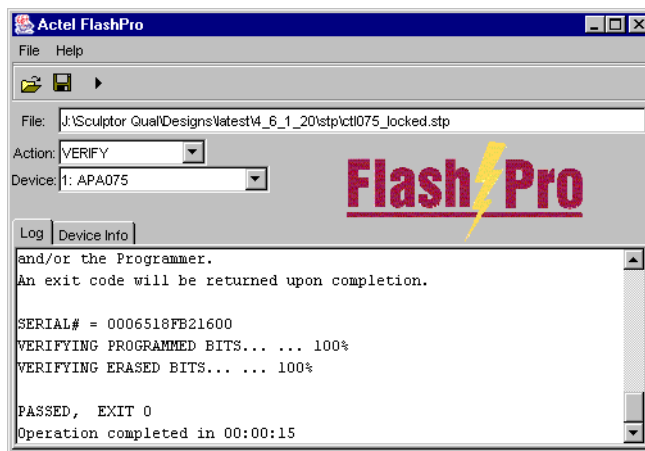

Figure 3-9. Successful Verification
4. Click *Execute* to start the verification process. A successful verification will result in Exit 0, as shown in Figure 3-9. If the STPL file is different from the file used for programming, Exit 11 appears in the Log window (see “Error Messages & Troubleshooting Tips” on page 89, “Exit 11” on page 92 for more details).